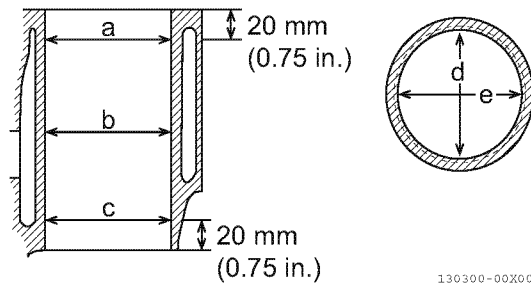

Fig.02-1
- Take measures at three places (Fig.02-1) (a, b, c), and in two directions (d, e) in each location.